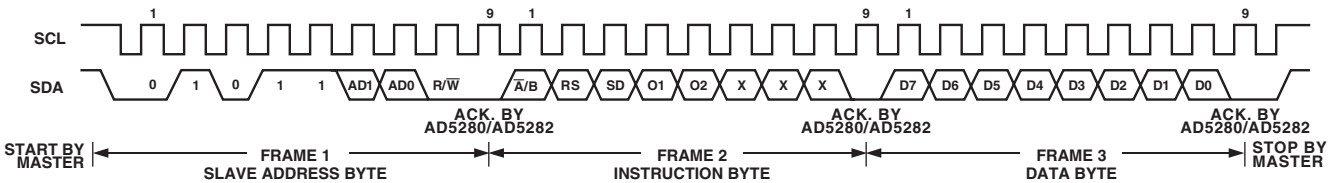
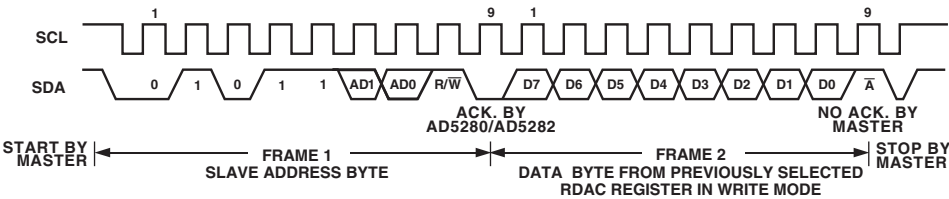

Figure 2. Writing to the RDAC Register
Figure 3. Reading Data from a Previously Selected RDAC Register in Write Mode
Referring to Figures 2 and 3, the first byte of AD5280/AD5282 is a Slave Address Byte. It has a 7-bit slave address and an R/\overline{W} bit. The 5 MSBs are 01011 and the following two bits are determined by the state of the AD0 and AD1 pins of the device. AD0 and AD1 allow the user to place up to four of the I²C compatible devices on one bus.
1. The master initiates data transfer by establishing a START condition, which is when a high-to-low transition on the SDA line occurs while SCL is high (see Figure 2). The following byte is the Slave Address Byte which consists of the 7-bit slave address followed by an R/\overline{W} bit (this bit determines whether data will be read from or written to the slave device).
The following two bits are O1 and O2. They are extra programmable logic outputs that can be used to drive other digital loads, logic gates, LED drivers, analog switches, and so on. The three LSBs are Don't Care (see Figure 2).
3. After acknowledging the Instruction Byte, the last byte in Write Mode is the Data Byte. Data is transmitted over the serial bus in sequences of nine clock pulses (eight data bits followed by an Acknowledge bit). The transitions on the SDA line must occur during the low period of SCL and remain stable during the high period of SCL (see Figure 2).
4. In the Read Mode, the Data Byte follows immediately after the acknowledgment of the Slave Address Byte. Data is transmitted over the serial bus in sequences of nine clock pulses (a slight difference with the Write Mode, where there are eight data bits followed by an Acknowledge bit). Similarly, the transitions on the SDA line must occur during the low period of SCL and remain stable during the high period of SCL (see Figure 3).
5. When all data bits have been read or written, a Stop condition is established by the master. A Stop condition is defined as a low-to-high transition on the SDA line while SCL is high. In Write Mode, the master will pull the SDA line high during the tenth clock pulse to establish a Stop condition, (see Figure 2). In Read Mode, the master will issue a No Acknowledge for the ninth clock pulse (i.e., the SDA line remains high). The master will then bring the SDA line low before the tenth clock pulse, which goes high to establish a Stop condition (see Figure 3).
AD5280/AD5282 allows the user to read back the RDAC values in the Read Mode. However, for the AD5282 dual-channel device, the channel of interest is the one that is previously selected in the Write Mode. In the case where users need to read the RDAC values of both channels in AD5282, they can program the first subaddress in Write Mode and then change to Read Mode to read the first channel value. After that, they can change back to Write Mode with the second subaddress and finally read the second channel value in Read Mode again. Note that it is not necessary for users to issue the Frame 3 data byte in Write Mode for subsequent readback operation. Users should refer to Figures 2 and 3 for the programming format.
AD5280/AD5282 features additional programmable logic outputs, O_1 and O_2 , which can be used to drive a digital load, analog switches, and logic gates. O_1 and O_2 default to Logic 0. The logic states of O_1 and O_2 can be programmed in Frame 2 under the Write Mode (see Figure 2). These logic outputs have adequate current driving capability to sink/source milliamperes of load.